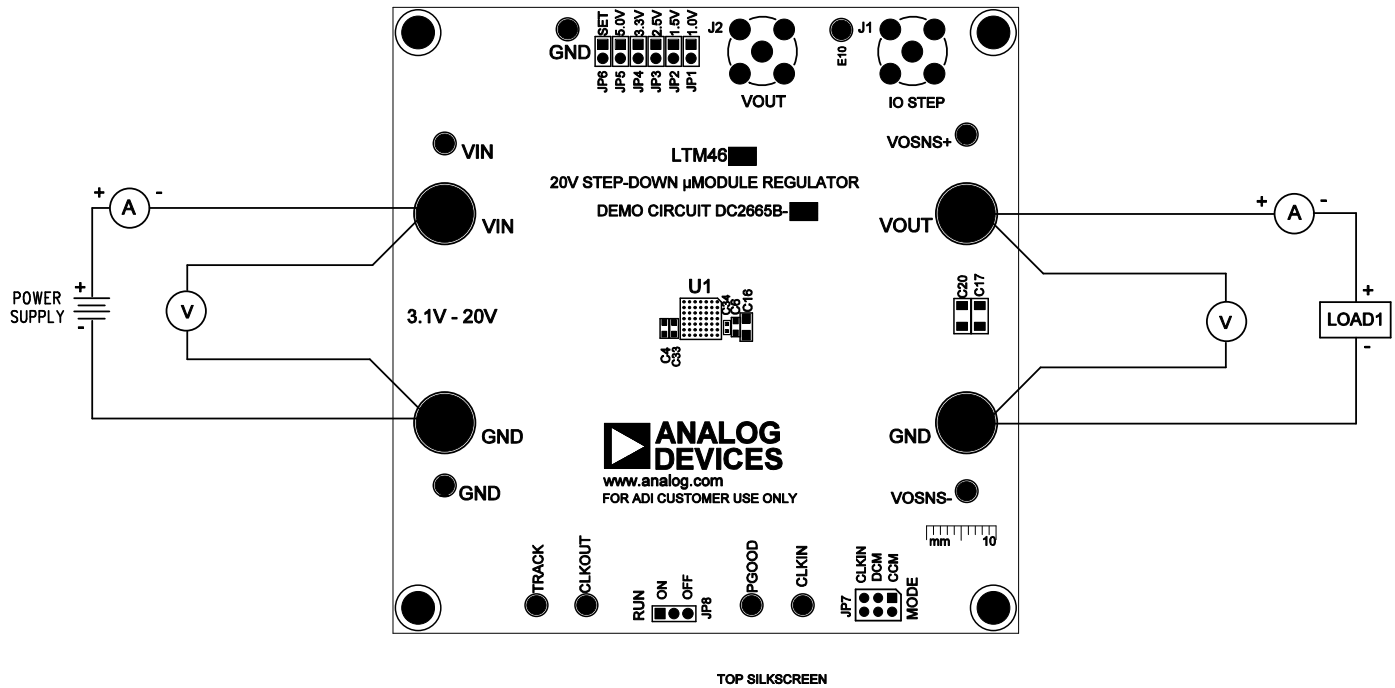

Figure 1. Test Setup of DC2665B-B
Demonstration circuit 2665B-B is an easy way to evaluate the performance of the LTM4638EY. Refer to Figure 1 for test setup connections and use the following procedure.
3. With the power off, connect the load, input voltage supply and meters as shown in Figure 1.